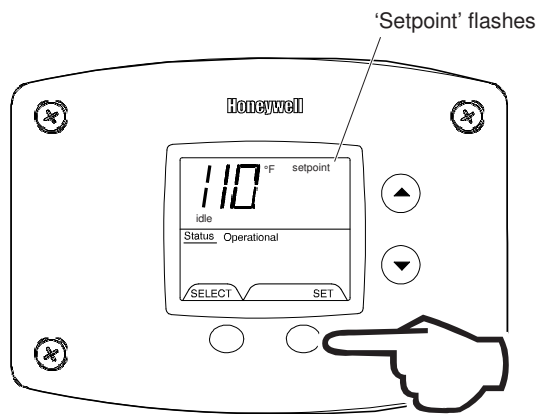

Fig. 51
- To lower the temperature setpoint, press the 'Temperature Down' button until the desired temperature is shown on the water heater display (Fig. 51).